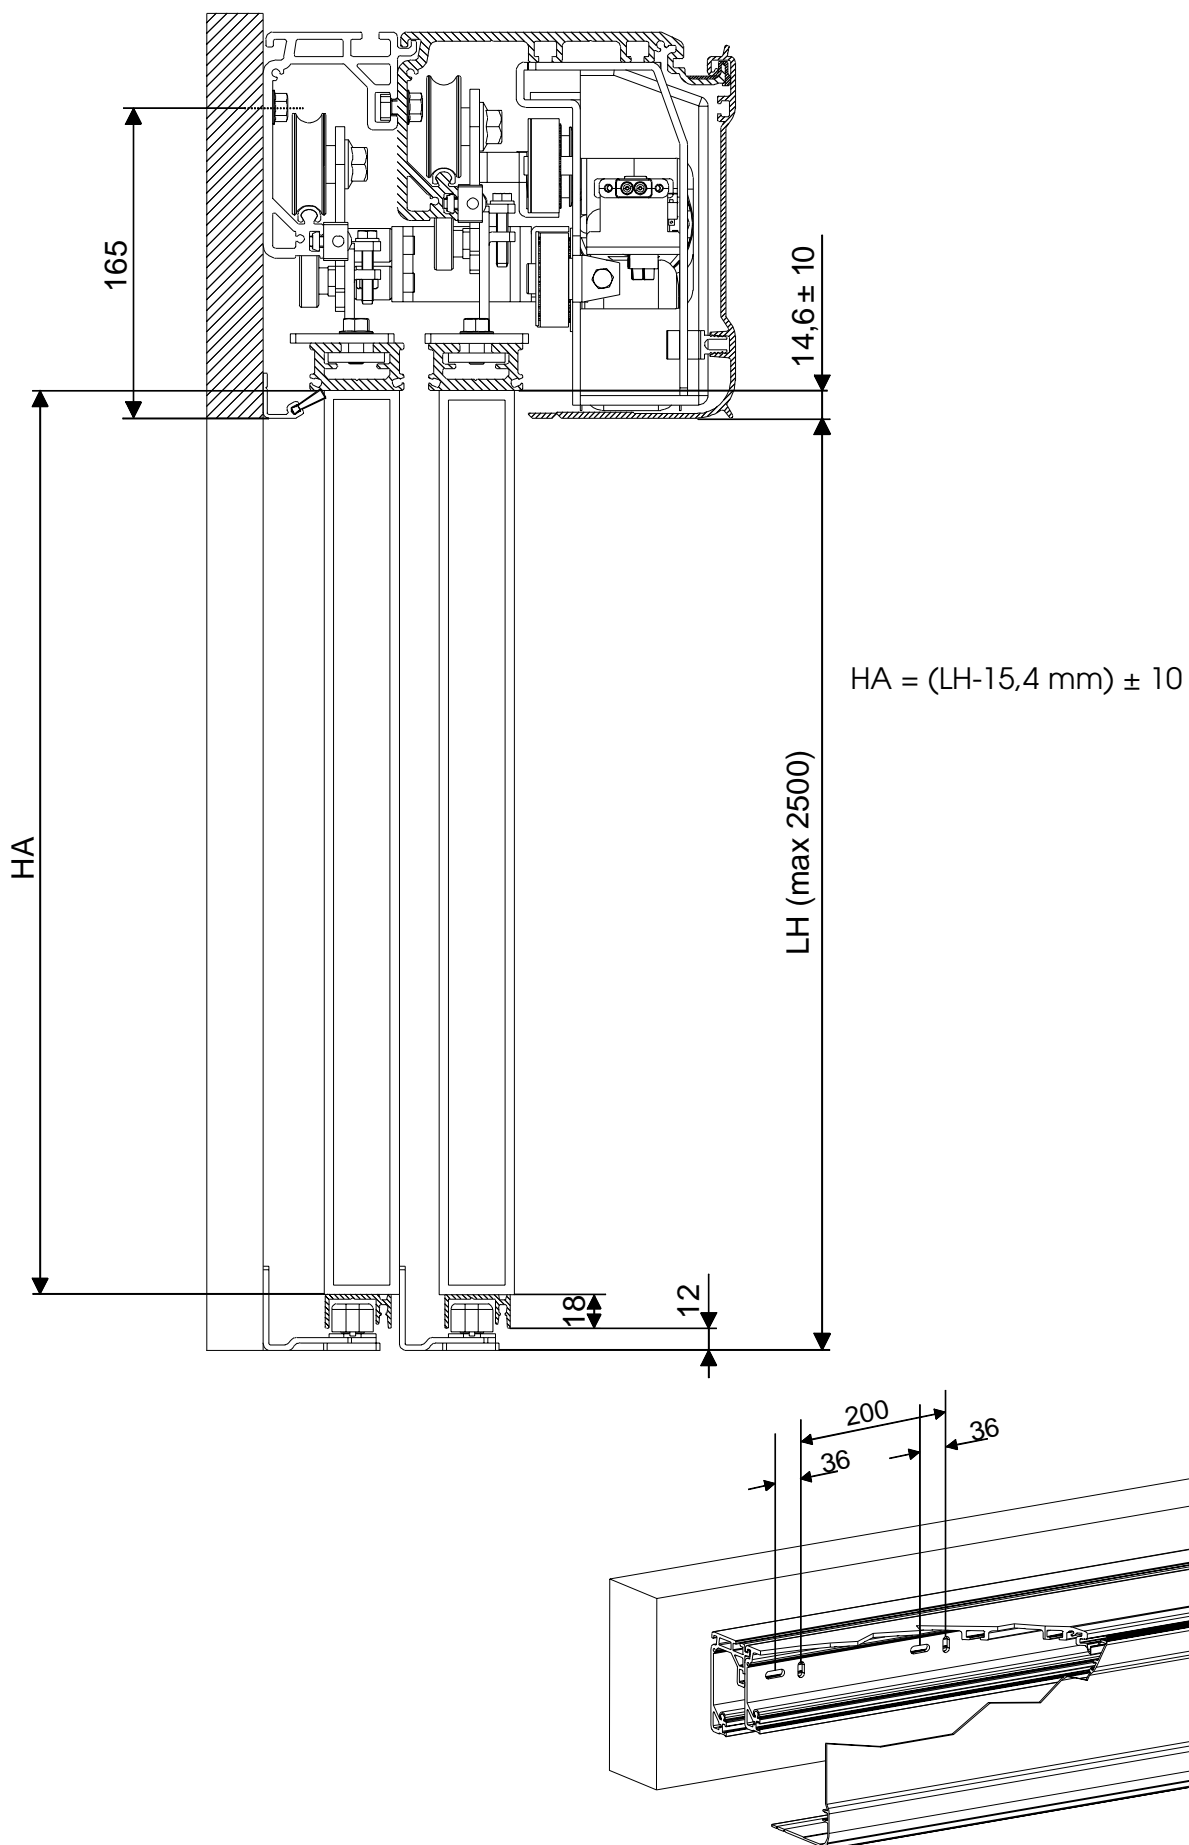

Fig. 7
•Establish the exact location of the head profile considering the overall dimensions of fig. 7. The head profile must be secured parallel to the floor.
Secure at the centre, firmly lifting the head profile to align the three securing points. Carry out the remaining securing operations, alternating vertical and horizontal slots (fig. 7).